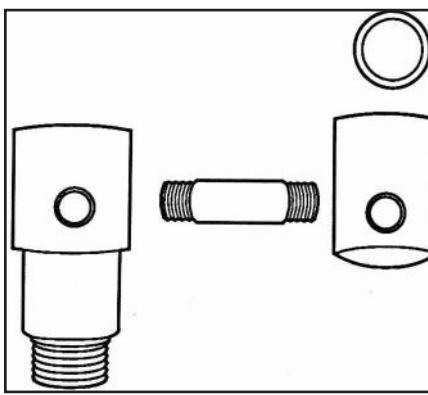

Figure 51
- 11.clamp the pump/oiler connector in the bench vise, and unscrew it from the oil chamber.(Fig.51)